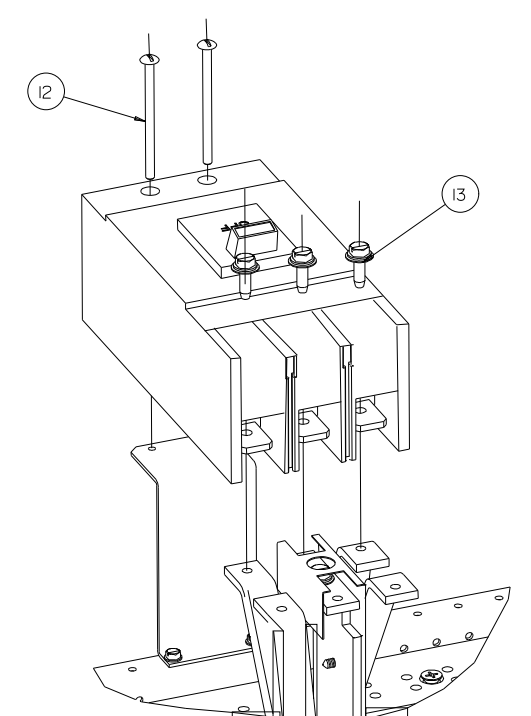

Figure 8
9. Reference fig. 8 - Install a circuit breaker by inserting one 5/16-18 screw (item 13) into each of the three contacts on the line side of the breaker and into the three 0.281" diameter holes in the phase straps. Insert two 1/4-20 X 3 3/4" screws (item 12) into the two 0.228" diameter holes in the mounting bracket and tighten securely. Torque the 5/16-18 screw connections to the values as specified on the rear of the deadfront.